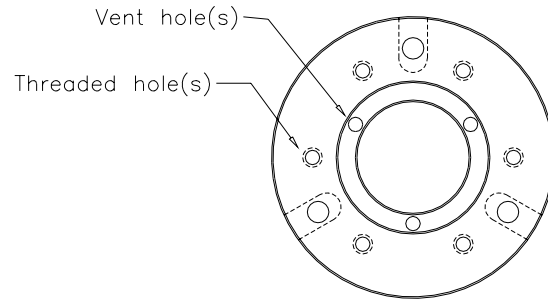

Figure 2. ACMS coil (top view)
10. Verify that the three vent holes located near the inner radius of the coil set are aligned with those on the heatsink clip (see Figure 2). These vents must be aligned for the gas to flow properly.
- b. Verify that the three vent holes in the base of the G10 tube are aligned with the vent holes of the coil set (see Figure 2).